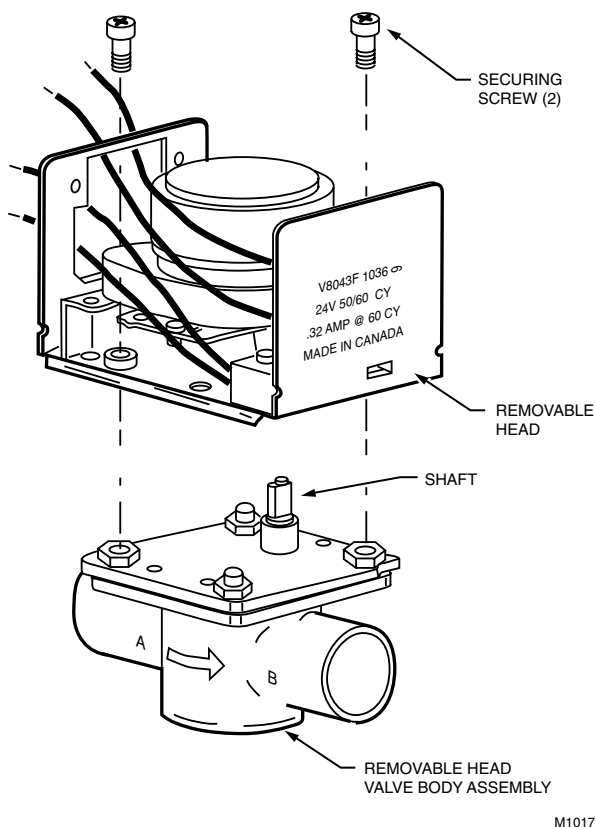

Fig. 12. Install new powerhead.
- ⑥ Install new powerhead (see Fig. 12):
- ⑦ Turn on the power.
- d. Remove the two screws securing the powerhead to the valve body (Fig. 12).
- ❹ Install the new power head (see Fig. 12):
- ❺ Turn on the power.